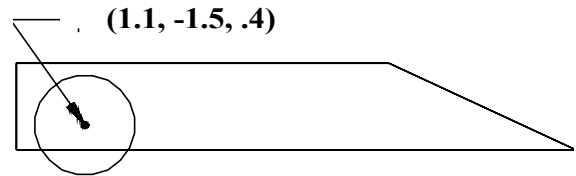

FIG. 4
Step 17. In the Side View, move cursor to coordinates **(1.1, -1.5, .4)** and click for the center of the wheel, **Fig. 4**.